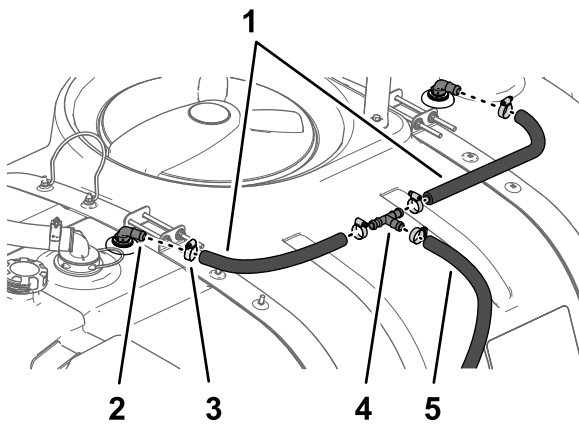

Figure 27
1. Assemble 2 hoses 1.9 x 61 cm (3/4 x 24) and 2 hose clamps onto each the 90° fitting at the rinse nozzle assemblies, and tighten the clamps by hand (Figure 27).
2. Loosely assemble the other end of the hoses 1.9 x 61 cm (3/4 x 24) on to the T-fitting with 2 hose clamps as shown in Figure 27.
3. Assemble the hoses 1.9 x 180 cm (3/4 x 71 inches) and a hose clamp onto the T-fitting as shown in Figure 27.
1. Assemble the hose 43.3 cm (17 inches) at the bottom of the rinse tank onto the inboard straight-barb fitting of the rinse-tank pump with a hose clamp, and tighten the clamp by hand (Figure 27).